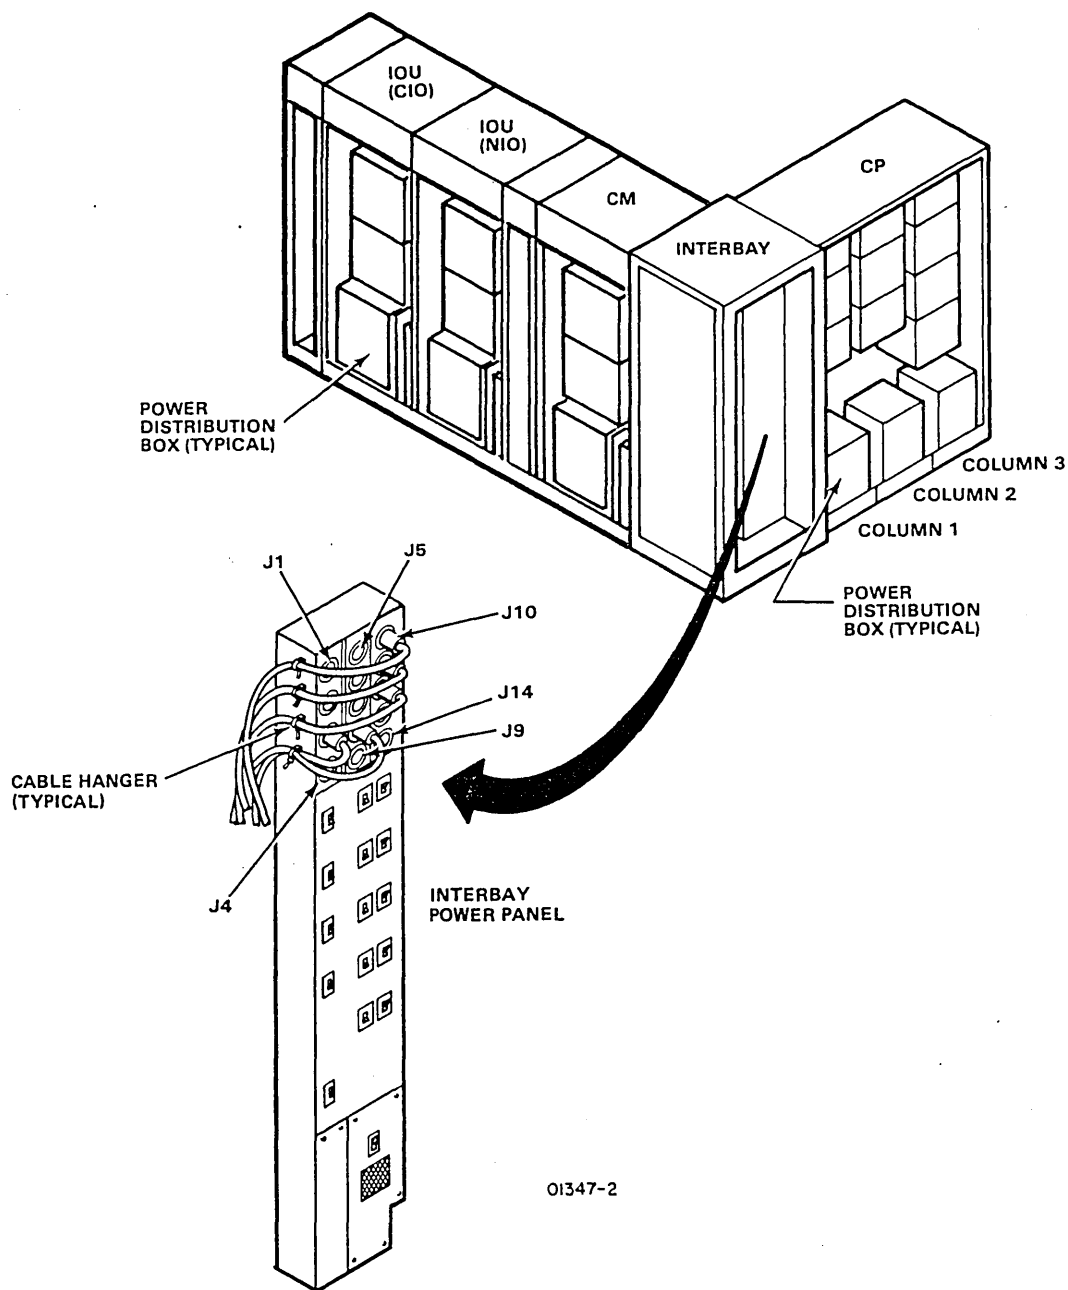

Figure 3-13. 50/60-Hz and 400-Hz Power Cord Connections to Interbay Power Panel
- ___ 7. Verify CP-0 preconnected power cord connections as follows (figure 3-13):